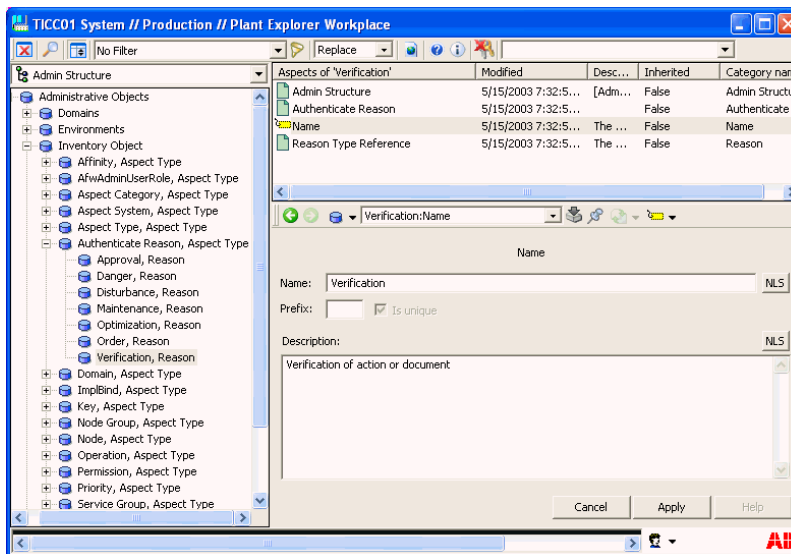

Figure 96. Name Aspect of Verification Object
6. Type a description in the **Description** text field. This text will appear as tool tip when placing the cursor over the Reason in the Authentication Dialog. See Figure 96.